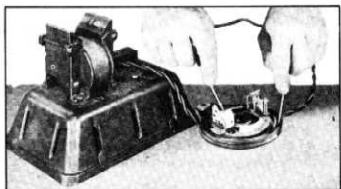

Fig. 31—Positive Brush Holder Test for Ground
1. Place test prod leads, one on the positive brush and the other on the end frame (fig. 31).